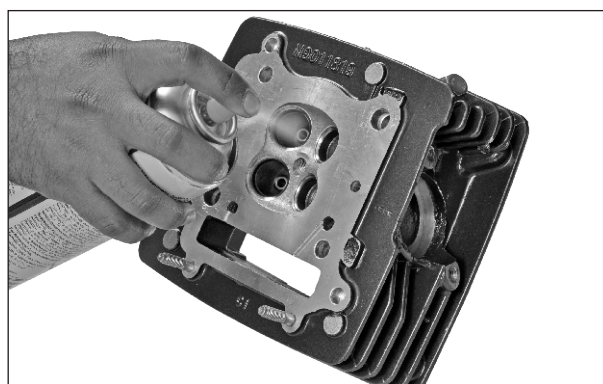

Fig. 3.56
- Decarbonise the combustion chamber of cylinder head complete using suitable decarbonising spray. (Fig. 3.56)